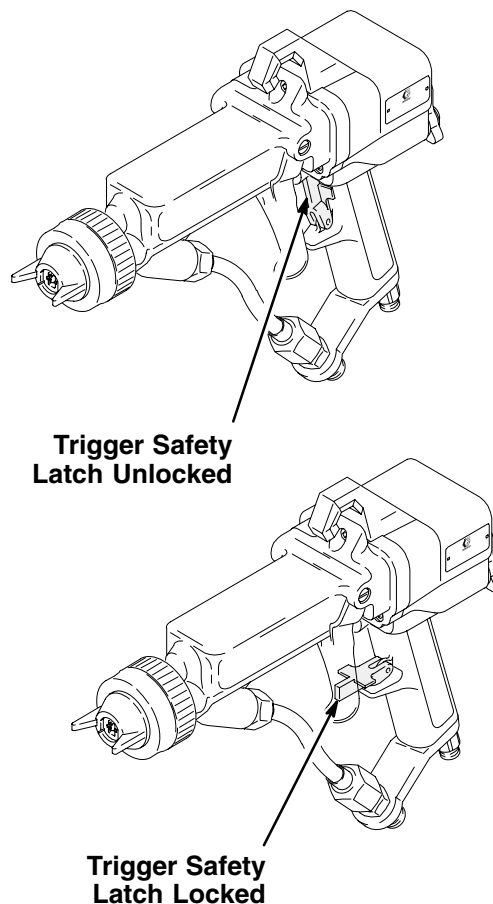

Fig. 3
1. Lock the spray gun trigger safety latch. See Fig. 3.